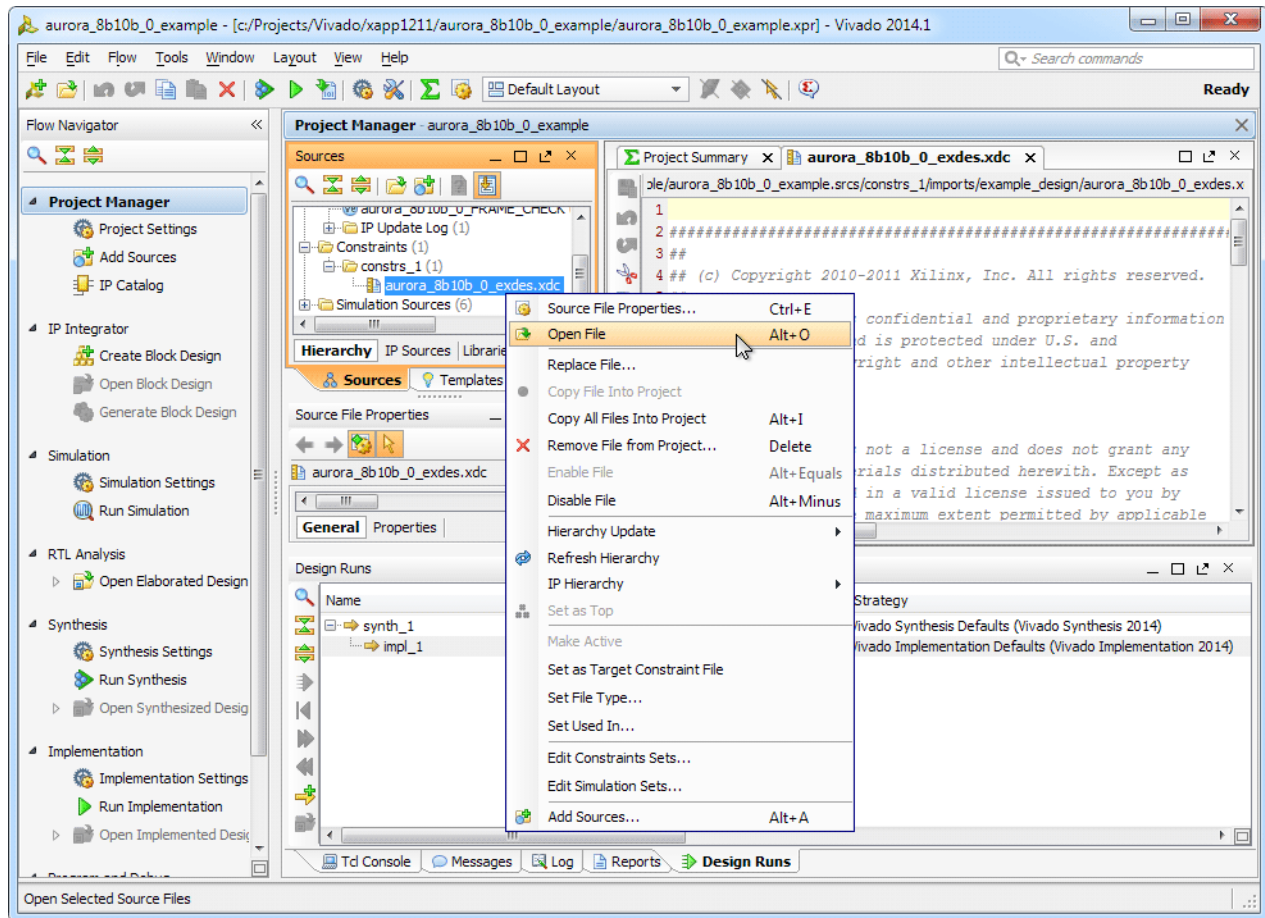

Figure 11: Open Constraints File
4. Right-click the constraints file (aurora_8b10b_0_exdes.xdc) and select **Open file** (Figure 11).